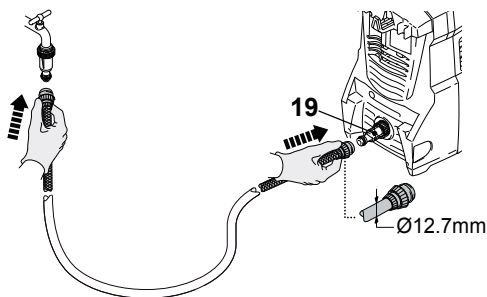

Fig. 4
3. Attach a suitable water hose to the water supply and then attach the other end to the water hose inlet connector (19) of the product (Fig. 4).